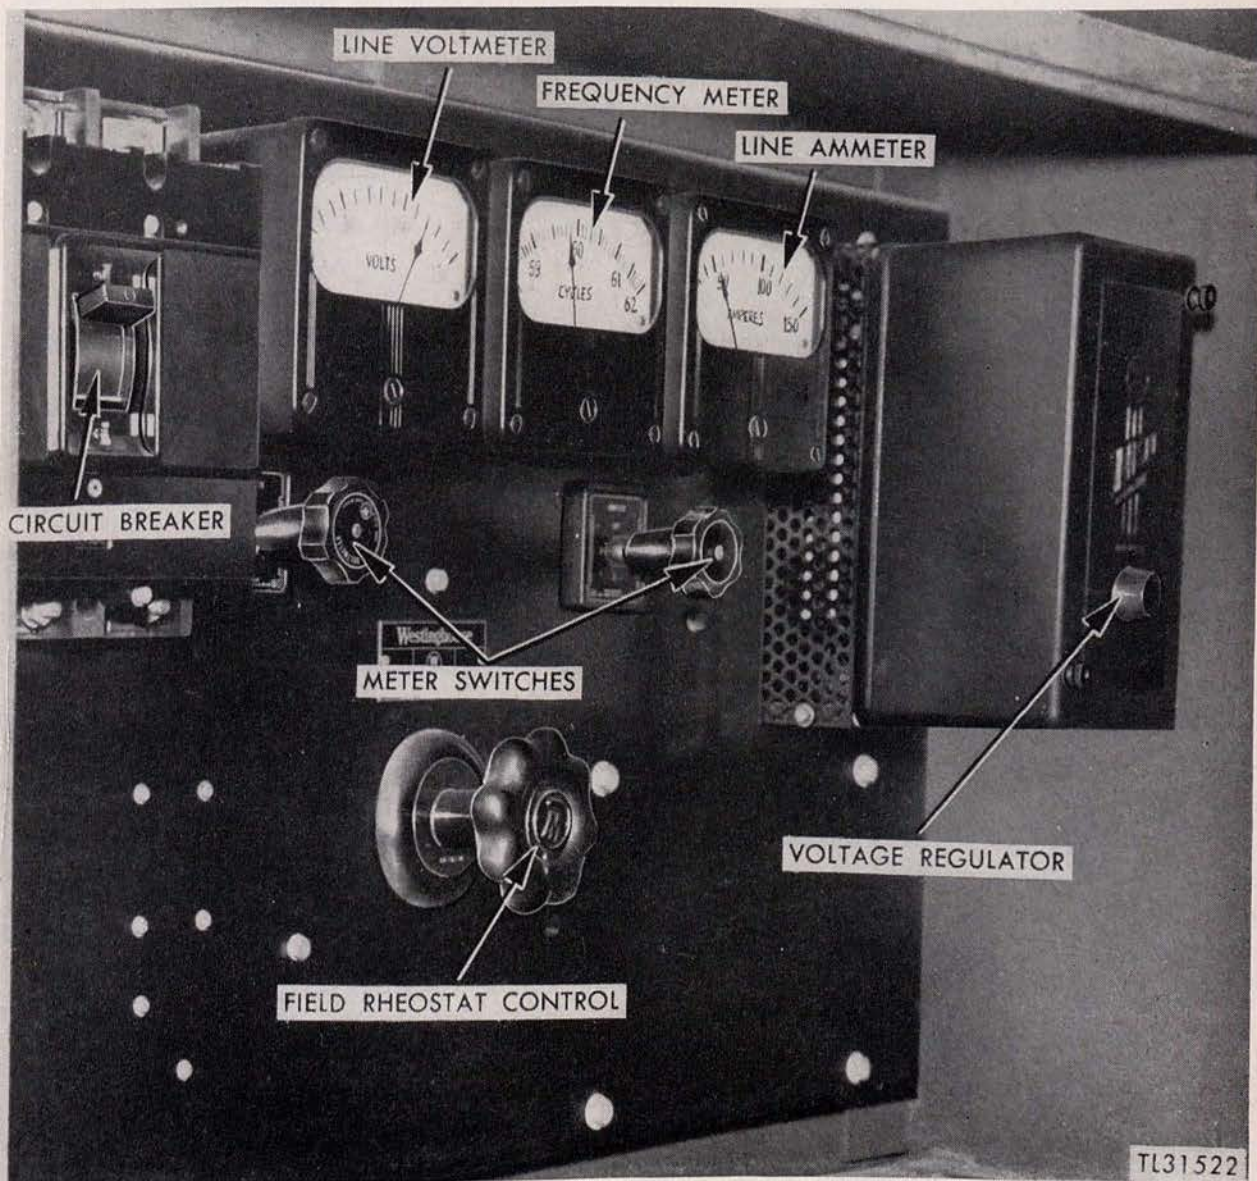

Figure 25. Power panel of Power Unit PE-74, showing controls.
42. Adjust Controls On Generator Power Panel (fig. 25)